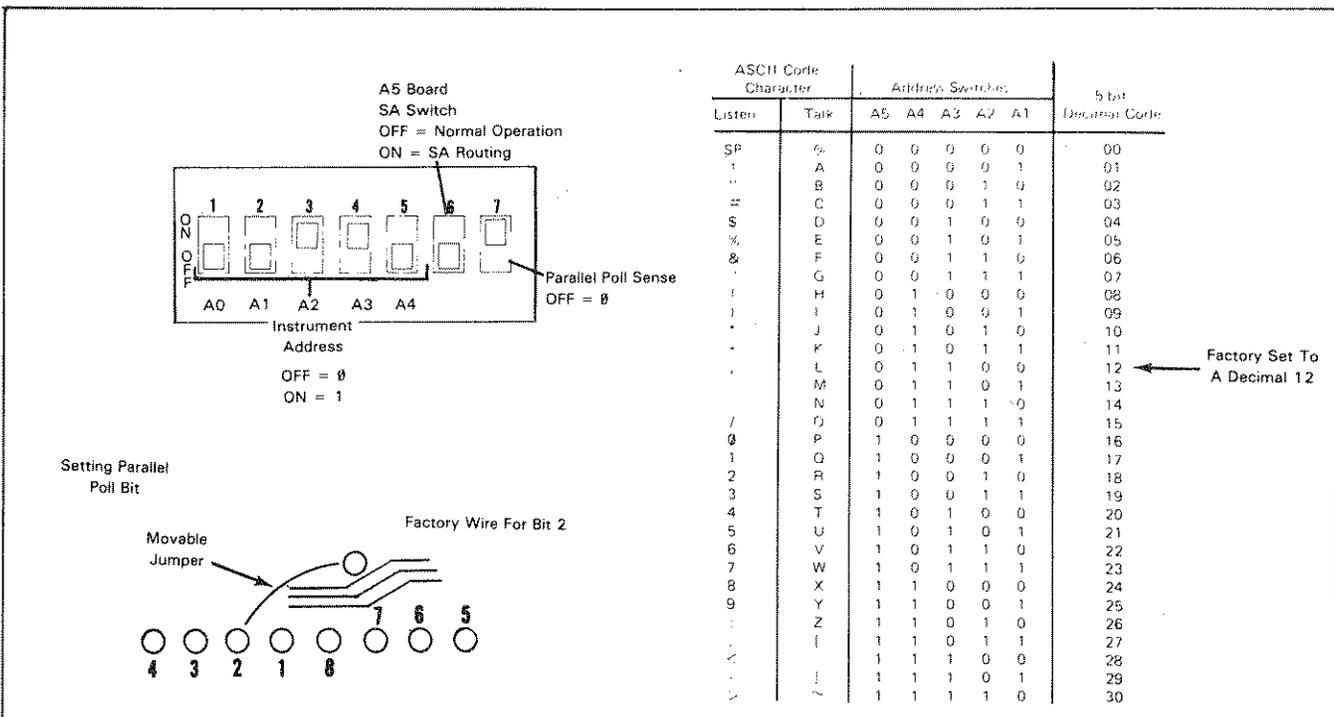

Figure 2-6. Address & Parallel Poll Bit Selection.
2-22. The “talk” and “listen” address for the 3253A are selected by the instrument Bus Address switch. This switch is the seven section “Dip” switch located on the A5 assembly. The five switches labeled 1 through 5 are used to select the unique talk and listen address. The 3253A left the factory with settings of (,) for listen address and (L) for talk address (decimal 12). Refer to Figure 2-6 for address and parallel poll bit selection.